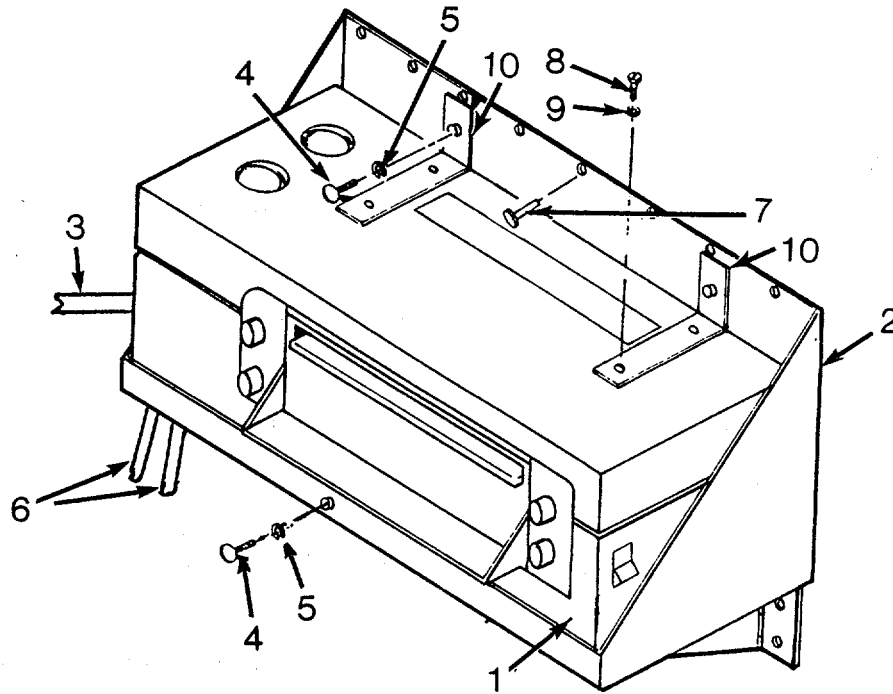

Figure 4-36. Phototypesetter Processor Assembly
a. Inspect. (See Figure 4-36.)
(1) Check editorial room roadside wall processor (1) for security of mounting and proper operation. Refer to TM 5-3610-302-12.
(2) Check processor power cord for damage.
(3) Check processor shelf (2) for security and damage.
b. Replace. (See Figure 4-36.)
(1) Disconnect processor power cord (3).
(2) Remove thumbscrews (4) and lockwashers (5) from processor (1).
(3) Disconnect tubing (6) from processor.
(4) Remove processor (1) from shelf (2).
(5) Remove processor shelf rivets (7) by drilling or chiseling off heads and remove shelf (2).
(6) Remove screws (8), lockwashers (9), and brackets (10).
(7) Install brackets (10), lockwashers (9), and screws (8) on replacement processor (1).
(8) Secure shelf (2) to shelter wall with rivets (7).
b. Replace. - Continued (See Figure 4-36.)